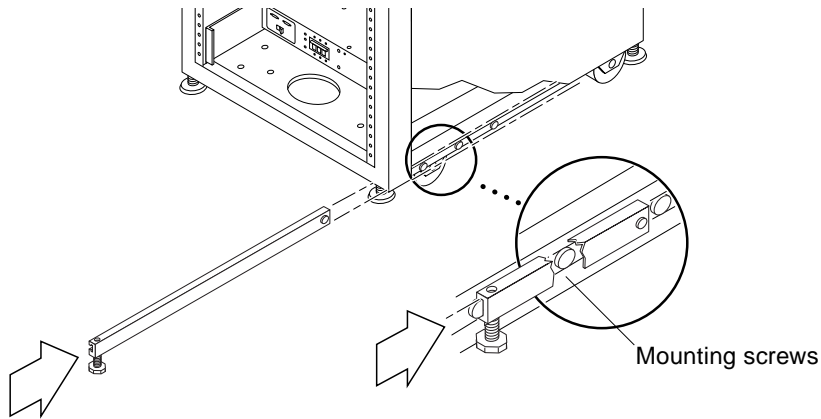

FIGURE 1-3 Installing the Right Stabilizer Leg
2. Slide the right stabilizer leg over the three mounting screws at the bottom of the expansion cabinet (FIGURE 1-3).